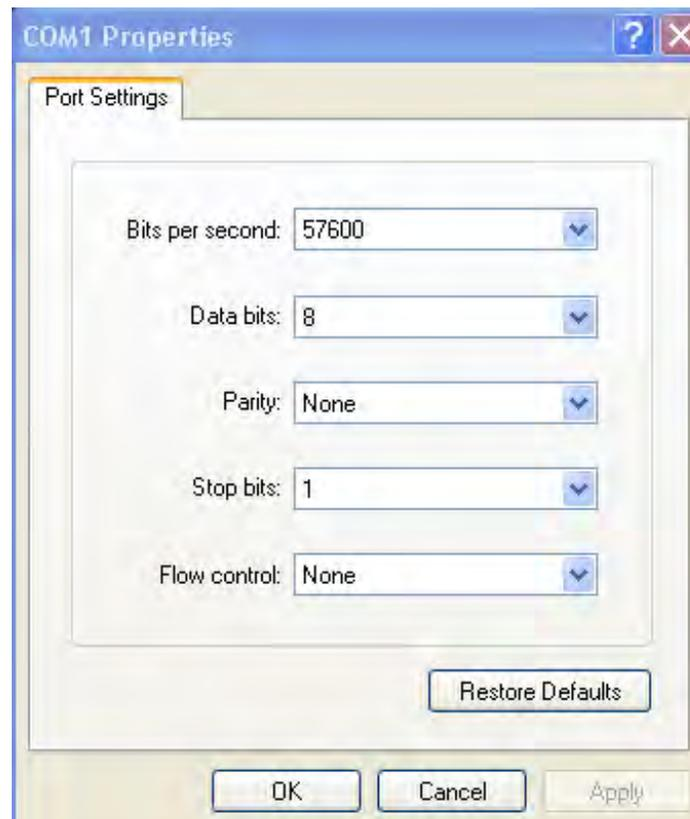

Figure 5. Hyperterminal Display Port Settings
Configure Hyperterminal to reflect the settings shown in Figure 5.
3. Set up the Hyperterminal emulation program; refer to Figure 5 for the appropriate settings.